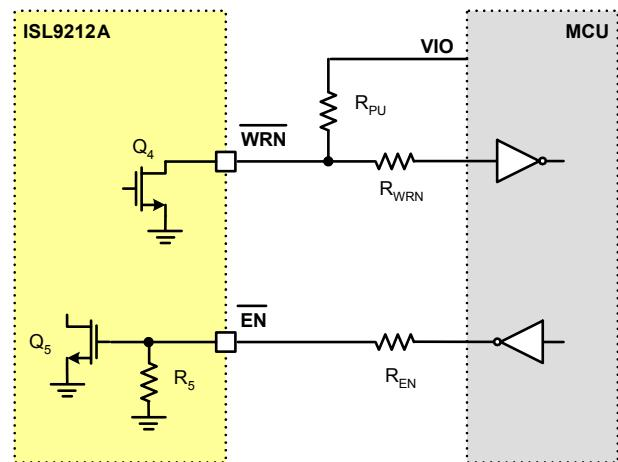

FIGURE 24. DIGITAL SIGNAL INTERFACE BETWEEN ISL9212A AND MCU
The ISL9212A has the enable (EN) and the warning (WRN) digital signals that can be interfaced to a microcontroller unit (MCU). Both signals can be left floating if not used. When interfacing to an MCU, it is highly recommended to insert a resistor between the ISL9212A signal pin and the MCU GPIO pin, as shown in Figure 24. The resistor creates an isolation to limit the current, in case a high voltage shows up at the ISL9212A pins under a failure mode. The recommended resistance ranges from 10kΩ to 100kΩ. The selection of the REN is dependent on the IO voltage (VIO) of the MCU. REN should be selected so that the ISL9212A EN pin voltage is above the disable threshold when the GPIO output of the MCU is high.